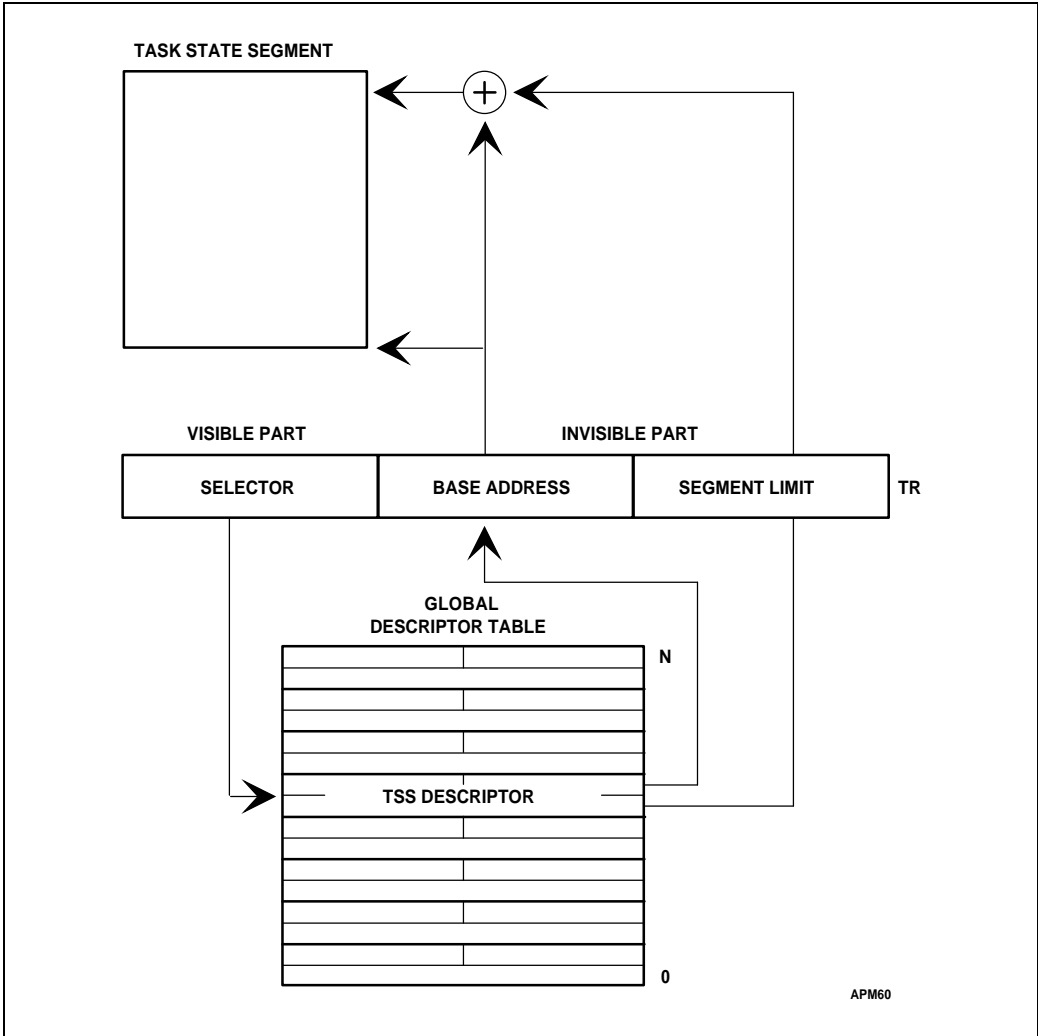

Figure 13-3. Task Register
The task register (TR) is used to find the current TSS. Figure 13-3 shows the path by which the processor accesses the TSS.